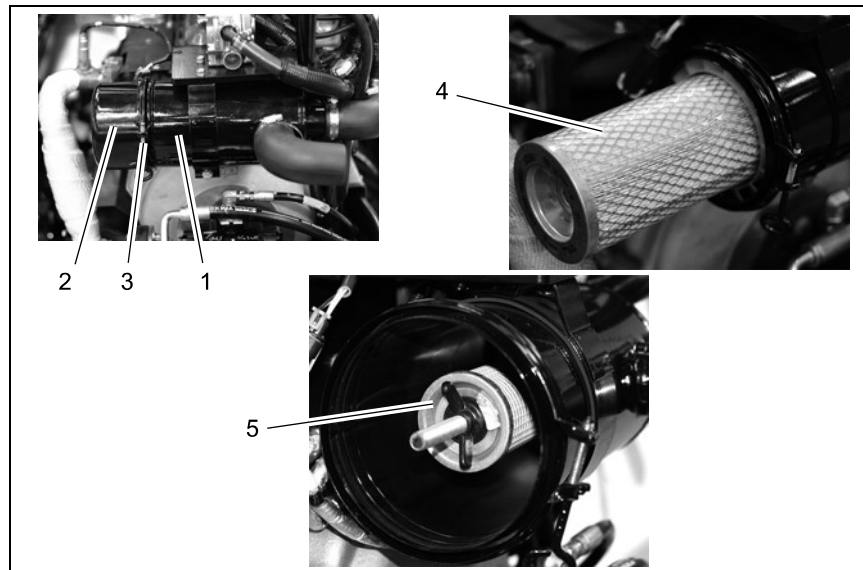

Fig.14
The air filter (Fig. 14/1) is located at the front of the engine. The main filter (Fig. 14/4) and safety cartridge (Fig. 14/5) must be changed according to the maintenance schedule.
2. Remove the fastener (Fig. 14/3) from the air filter (Fig. 14/1) and remove the housing cover (Fig. 14/2).
3. Remove the main filter (Fig. 14/4) from the housing.
1. Clean the housing cover (Fig. 14/2) on the inside with a moist cloth.
2. Blow the main filter (Fig. 14/4) clean from the inside towards the outside. Use compressed air to max. 3 bar.
1. Slide the main filter (Fig. 14/4) carefully back in the upper housing section, with the open side first.
2. Replace the housing cover (Fig. 14/2) ensuring it is fit correctly.
3. Close the fastener (Fig. 14/3) again.
The main filter (Fig. 14/4) must be changed in the case of damage or every 250 operating hours at the latest.
The safety cartridge (Fig. 14/5) must not be cleaned nor reused after being disassembled!
1. Disassemble the main filter (Fig. 14/4), refer to Section 5.5.1.
2. Disassemble the safety cartridge (Fig. 14/5).